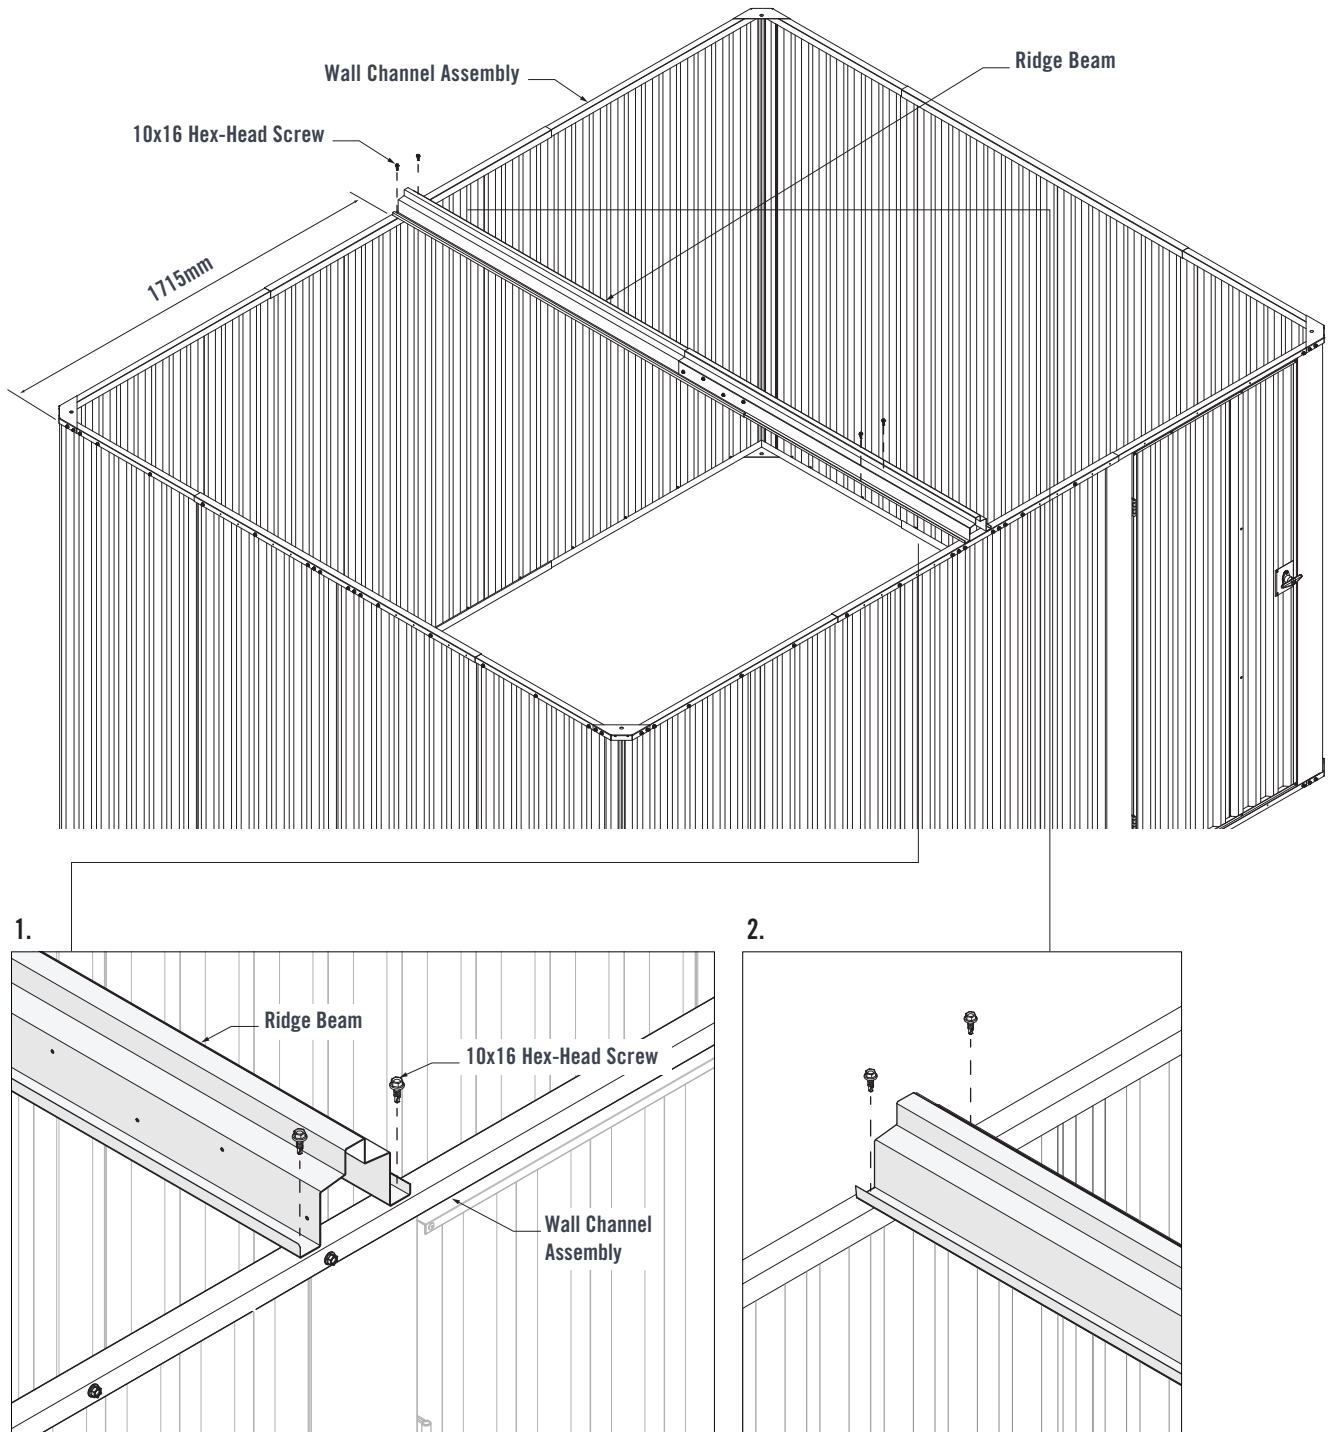

FIGURE 8.3
Fit the Ridge Beam onto the top Wall Channel Assemblies. Ensure 1715mm spacing between the edge of the shed and edge of the Ridge Beam (Figure 8.3).
1. Align the end of the Ridge Beam with the outer edge of the Wall Channel Assembly. Fasten two 10x16 Hex-Head Screws through the pilot holes in the Ridge Beam and into the Wall Channel Assembly (Figure 8.3).
2. Fasten two 10x16 Hex-Head Screws through the pilot holes in the Ridge Beam and into the rear Wall Channel Assembly (Figure 8.3).